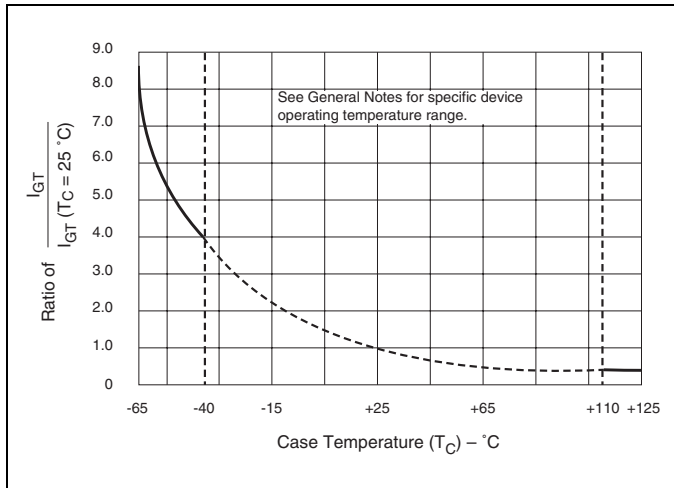

Figure E5.10 Normalized DC Gate-Trigger Current versus Case Temperature
- (2) See Figure E5.10 for I_{GT} versus T_C or T_L .